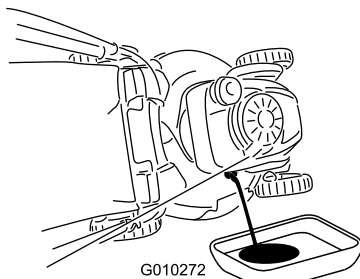

Figure 39
3. Tip the mower onto its side, with the air filter up, to drain the used oil out through the oil fill tube (Figure 39).